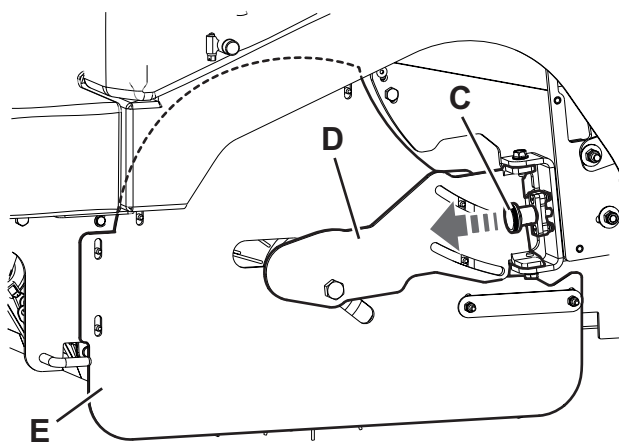
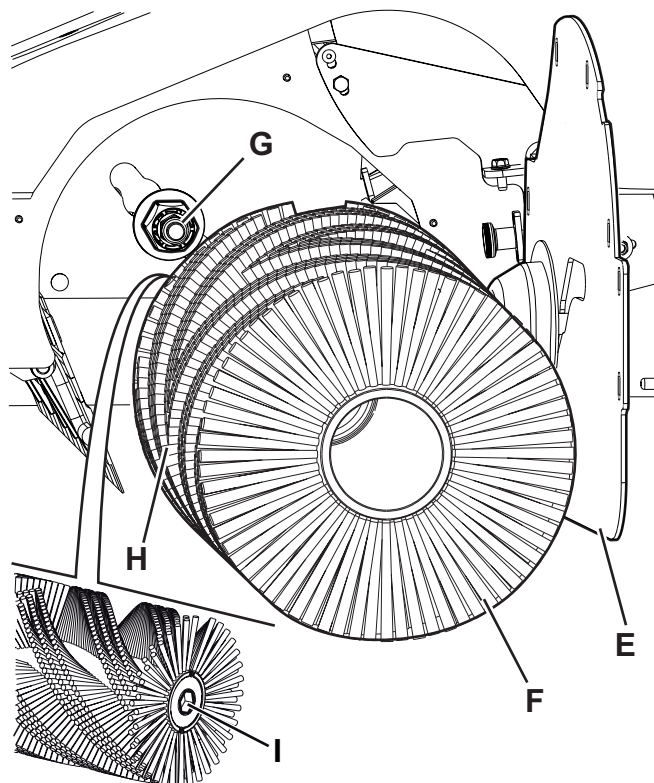

Figure 11
Figure 12
5. Pull the knob (C, Fig. 11) as indicated by the arrow to disengage the closing support (D).
6. Turn and open the closing support (D) together with the left side skirt (E).
7. Remove the main broom (F, Fig. 12).
8. Check that the drive hub (G) is free from dirt or foreign materials (cords, rags, etc.) accidentally rolled up.
9. The new main broom must be installed with the bristles rows bent as shown in the figure (H).
10. Install the new main broom and ensure that the hexagonal mesh (I) fits into the relevant drive hub (G).
11. Turn and close the closing support (D, Fig. 11); when closing, slightly pull the knob (C) until it clicks.